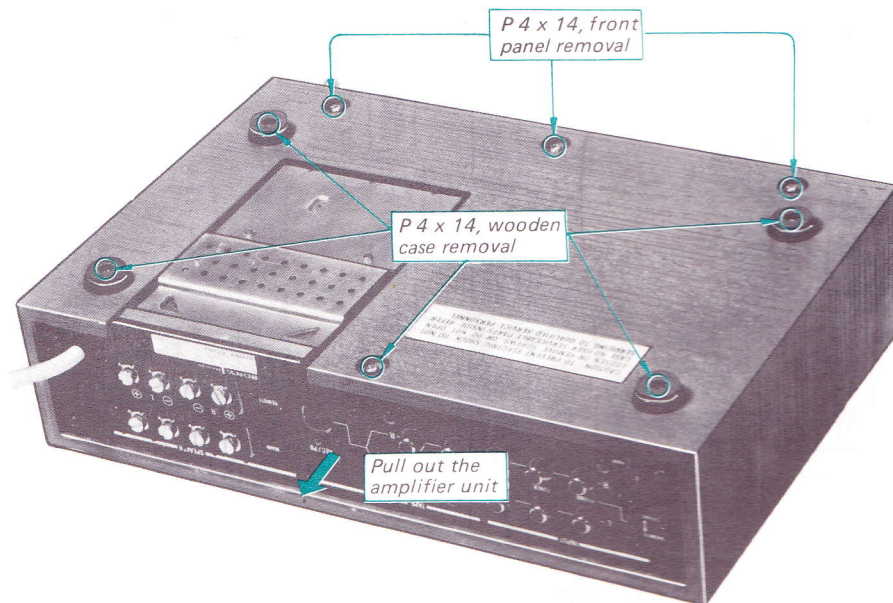

Fig. 2-1. Front panel and wooden case removal
2. Remove the three screws at the front bottom of the wooden case shown in Fig. 2-1.
2. Remove the five screws from the bottom, then pull out the amplifier unit as shown in Fig. 2-1.